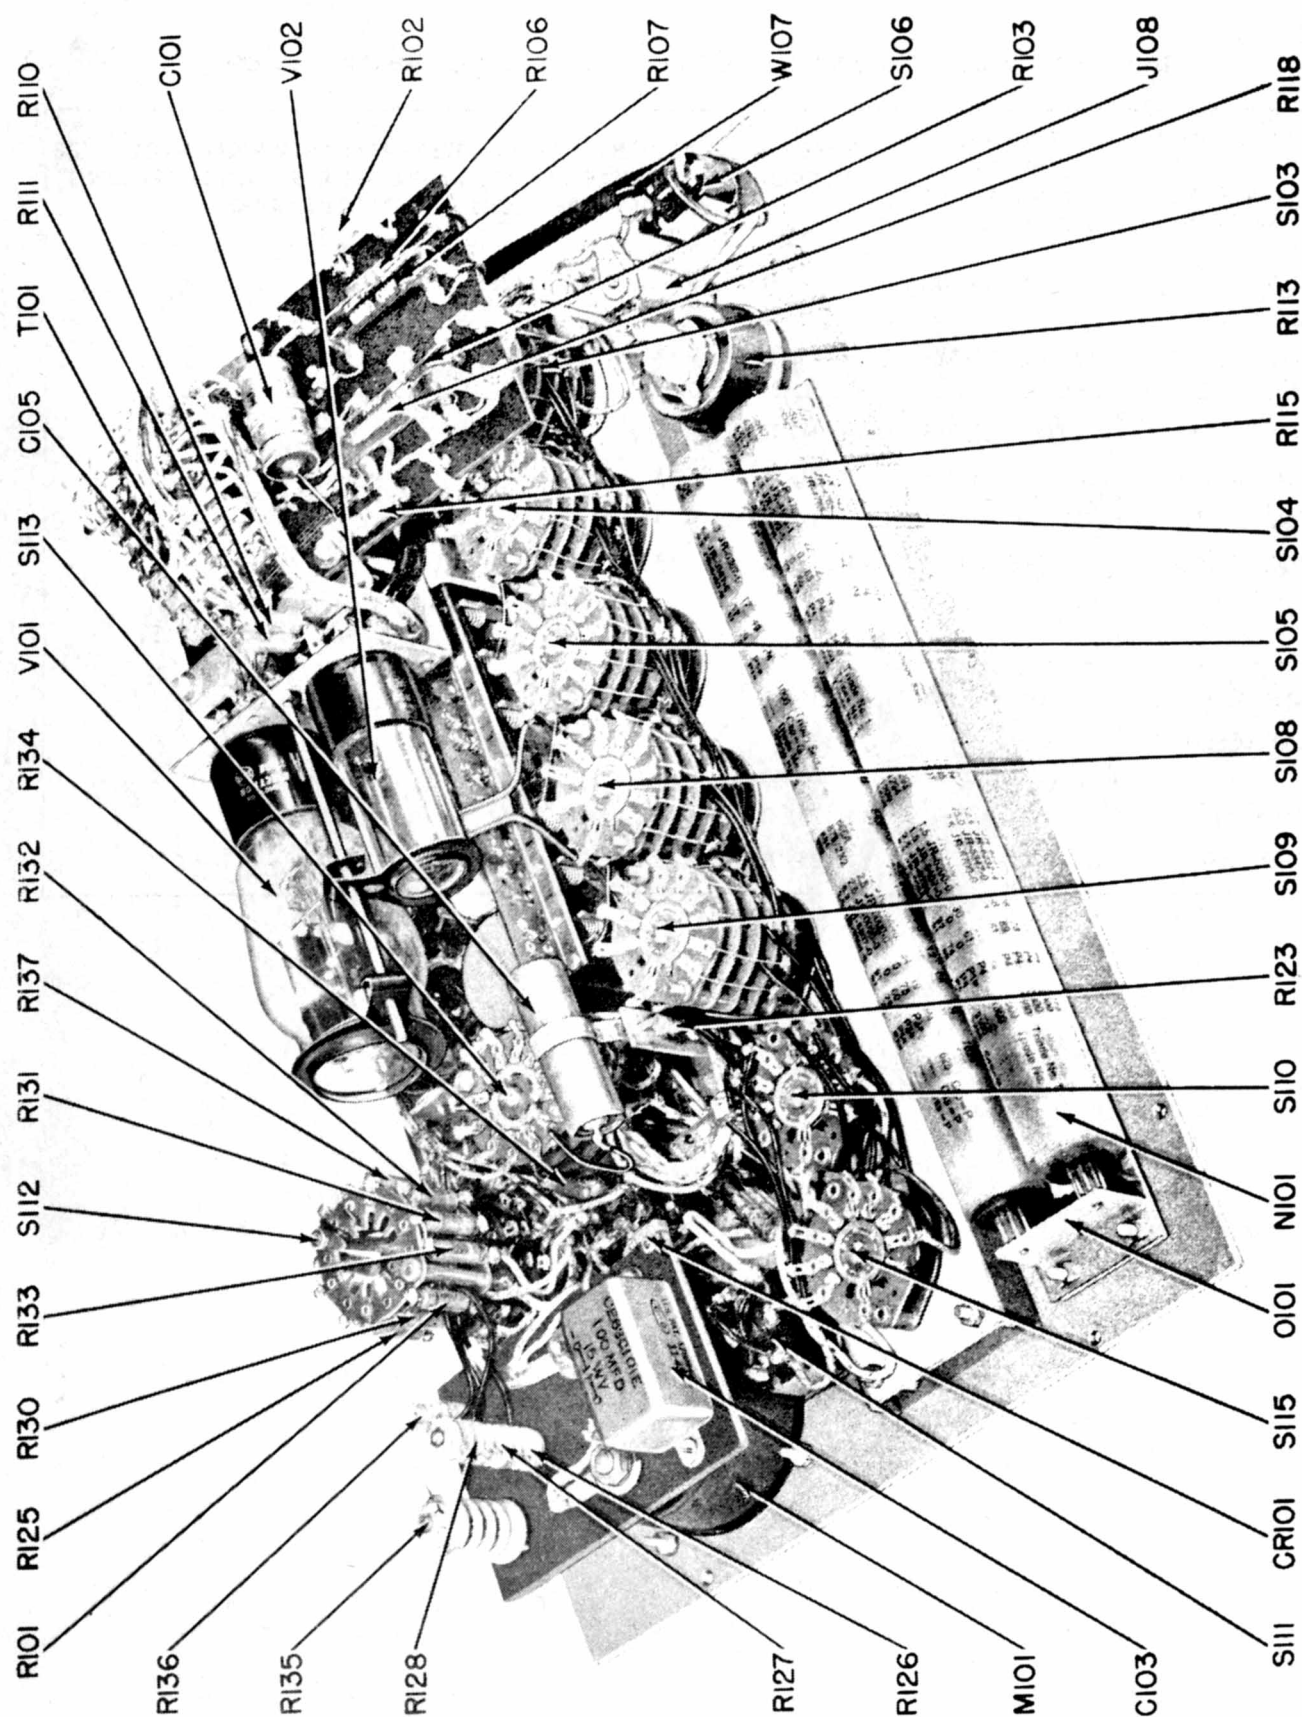

Figure 7-2. Internal View of Tube Tester TV-3/U (Front Left Oblique)
a. Refer to schematic diagram Figure 7-6 and internal views Figure 7-2, 7-3, 7-4, and 7-5 for correct wiring and placement of parts in the TV-3/U.